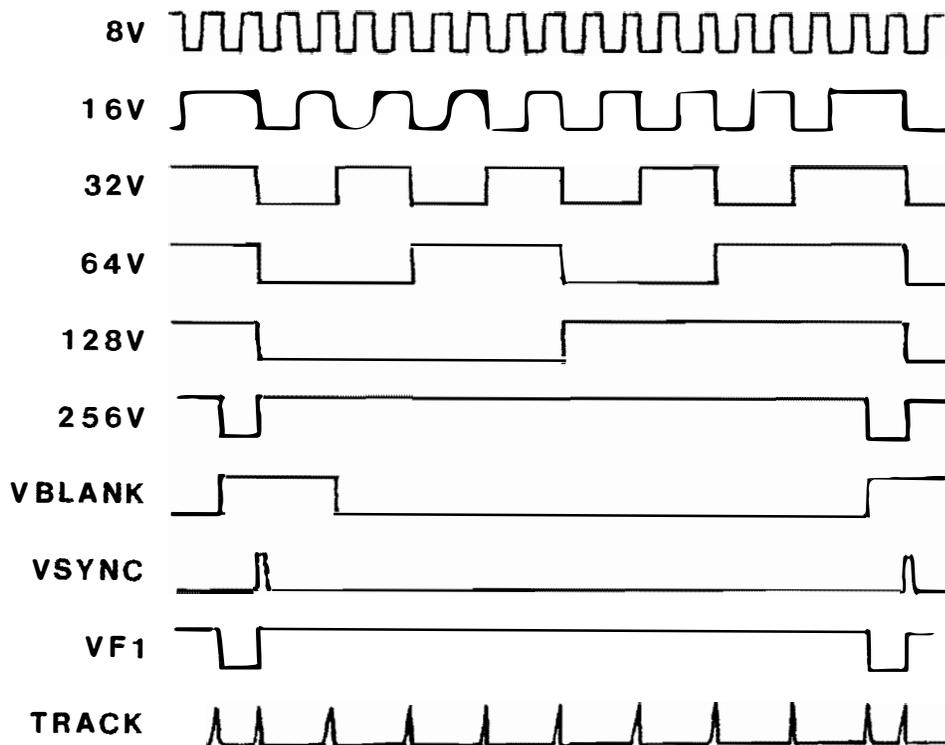

Figure 3-3 Timing Diagram of Signals Associated with Vertical Picture Frame
3.4.4 GENERATION OF VERTICAL SYNCHRONIZATION INFORMATION (SHEET 2, ZONES B 6, 7, 8 and C 6, 7, 8): Flip-flop C2 and type-9316 counters C3 and D3 comprise a vertical sync chain which divides the HSYNC signal by 272. The circuit configuration formed by transistor Q5 and flip-flop E2 detects power failures and produces a correct start-up sequence on the vertical sync chain after power is applied. The VSYNC signal at J2 pin 13 is the basis for the vertical synchronization information sent to the TV monitor. The VBLANK signal at E3 pin 5 is the basis for the vertical component of the video blanking information to the monitor. The timing relationships between VSYNC and VBLANK, and with certain other timing signals, is shown in Figure 3-3. A total of 272 HSYNC pulses are generated, and thus 272 horizontal scan lines appear on the TV screen, between successive VSYNC signals.